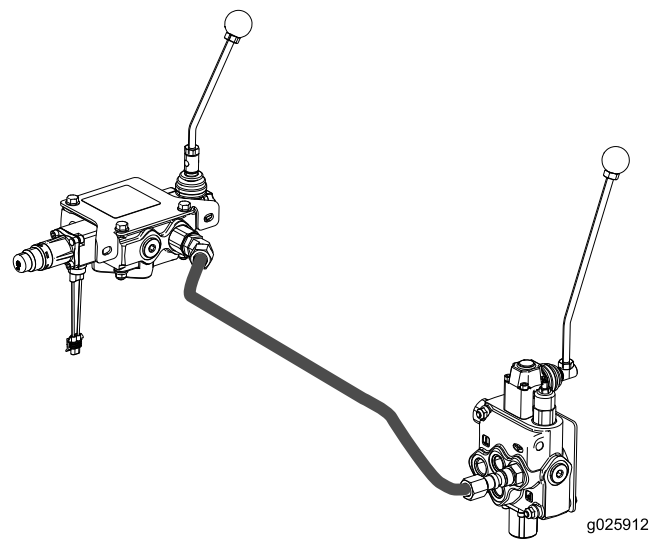

Figure 26
4. Connect a hydraulic tube from the open port on the trencher valve to the hydra-borer valve (Port P) as shown in Figure 26.